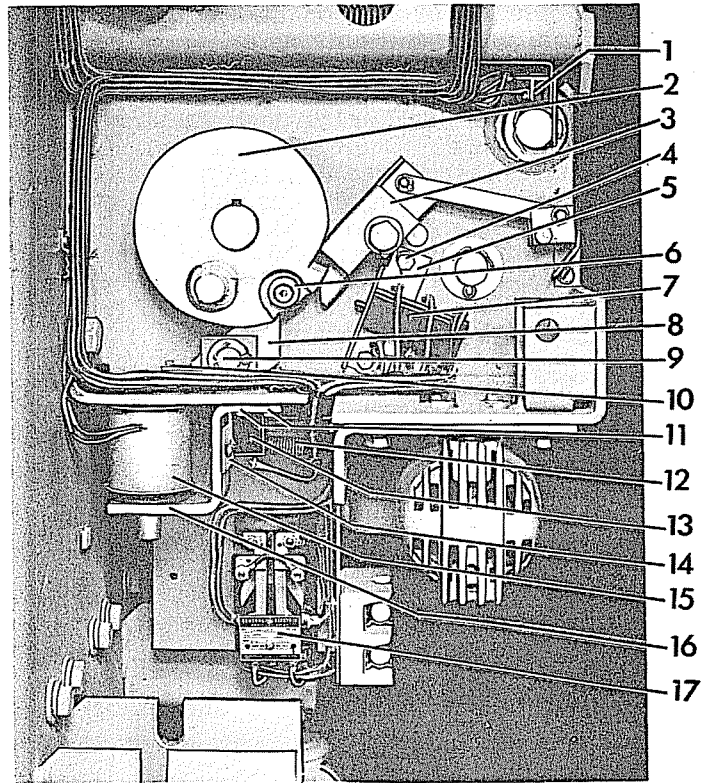

Figure 6. (8034467) Control Mechanism
During the time the springs are being compressed a relay (17) Figure 6, is energized to hold the closing circuit open. The relay remains energized until the springs are fully charged and the control switch contacts are re-set.
The breaker can be closed electrically by energizing the spring release solenoid (15) Figure 6, or manually by pushing the close button (9)
Refer to Figure 6. The wipe between the release latch (8) and roller (6) should be $3/16"$ to $1/4"$. If re-setting is required, loosen, set, and retighten adjustment nut and screw (10).
Refer to Figure 6. The release latch must be fully re-set and the latch monitoring switch (13) operated before the motor will start. When the latch is fully reset the clearance between the switch striker arm and the switch mounting bracket (14) is $1/32"$ or less, this can be adjusted by bending the striker arm.
Refer to Figure 6. With the closing springs blocked rotate the switch cam (2) until the switch striker (3) has traveled the maximum amount (about 180 degrees rotation of cam). At this point the clearance between the striker and the switch support (5) should be $1/32"$ or less. This can be adjusted by loosening the switch support mounting bolts (4) and rotating the support.